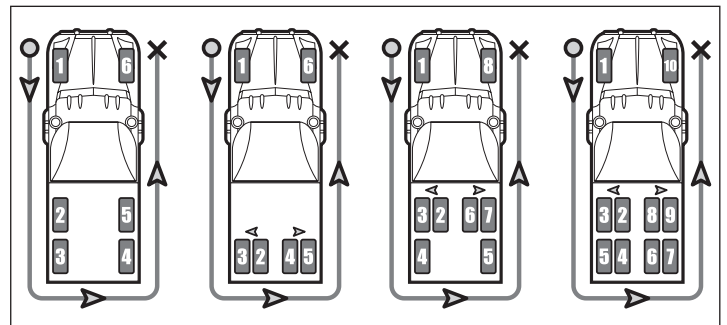

FIGURE 4 - TRACTOR DIAGRAMS SHOWING THE PRE-SET SENSOR LOCATIONS EXPECTED BY SMARTIRE® TPMS
- Use Figure 4 to verify that the wheels are installed in the correct location for each (numbered P1, P2, etc.) sensor.